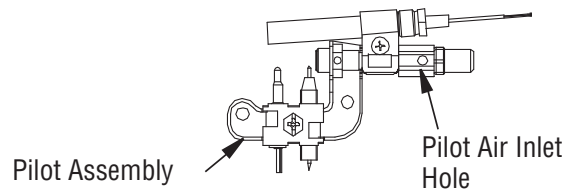

Figure 65 - Pilot Inlet Air Hole (Your pilot may vary from pilot shown)
2. Inspect burner, pilot and primary air inlet holes on injector holder for dust and dirt (*see Figure 65, Page 29*).
- Clean pilot assembly also. Additional cleaning may be needed for proper pilot operation based on use/lack of use. A yellow tip on the pilot flame may indicate dust and dirt in the pilot assembly. There is a small pilot air inlet hole about from where the pilot flame comes out of pilot assembly (*see Figure 65*). With unit off, lightly blow air through air inlet hole. You may blow through a drinking straw if compressed air is not available.